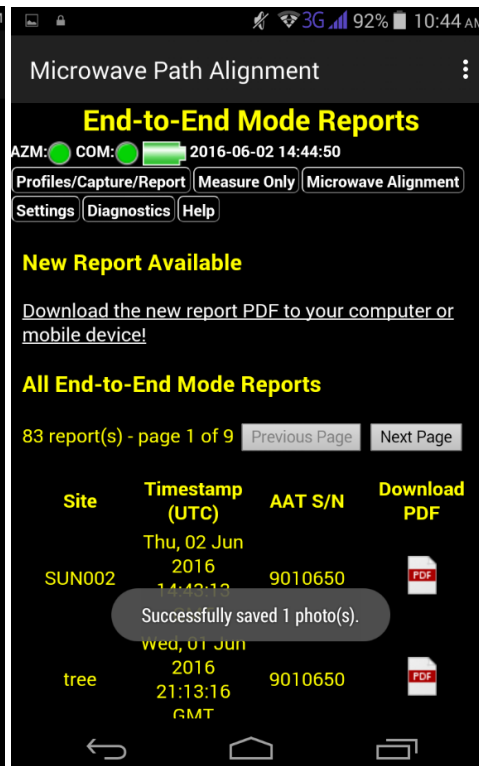

Figure 18
18) The PDF alignment report, including any site photos taken in Step 16, is saved to the cloud on the internet, ***not in the MW15/MW08***. The user may save a copy of the report to the tablet by clicking the “Download PDF” link. *See Figure 18,*